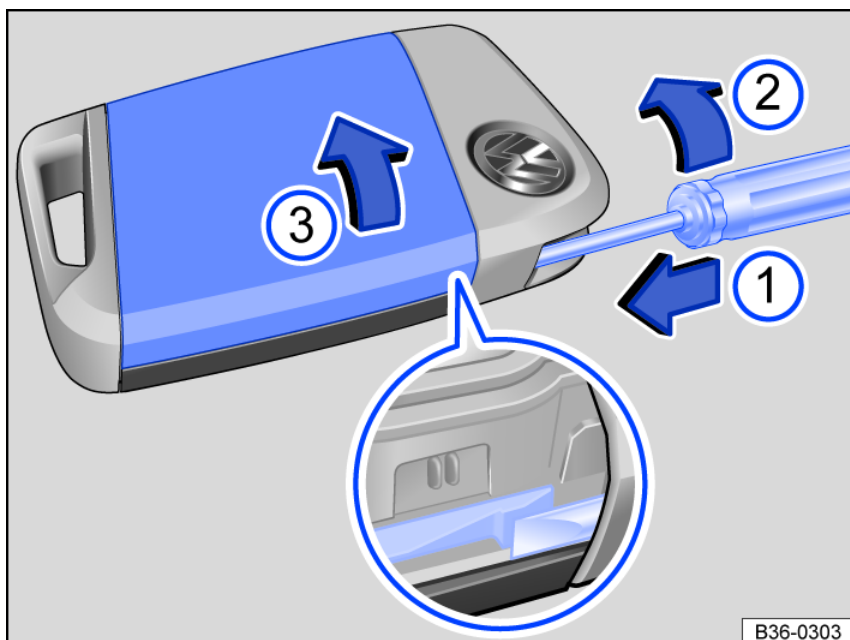

Fig. 52 Vehicle key: opening the battery compartment cover.
Key for fig. 52:
- ① Use a flat-head screwdriver to release the cover.
- ② Turn the flat-head screwdriver in the direction of the arrow.
- ③ Cover on the back of the vehicle key.
- Slide the blade of the flat-head screwdriver in the direction of the arrow approximately 0.4 inches (1 cm) into the outer guide on the mechanical key fig. 52.
- Push the cover in the direction of the arrow fig. 52 and remove it.
- Push the cover off the housing fig. 52 ③.